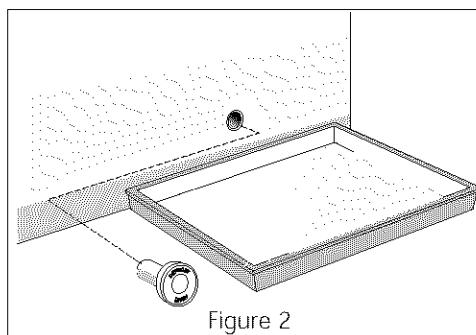
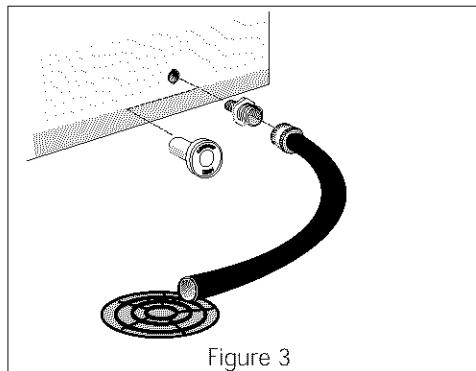
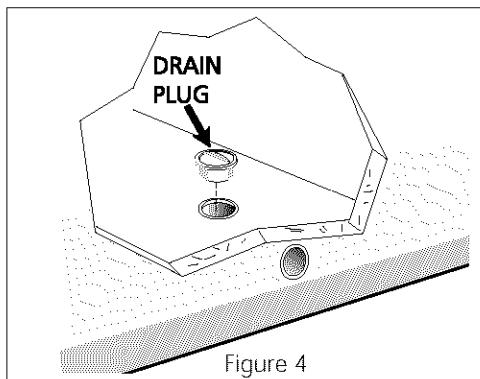

Figure 2
Figure 3
Figure 4
- **On chest models** with a defrost drain, place a shallow pan beneath the drain outlet (Figure 2). A one half inch garden hose adapter can be used to drain the freezer directly into a floor drain (Figure 3). If your model is not equipped with an adapter, one can be purchased at most hardware stores. Pull out the drain plug inside the freezer, and pull off the outside defrost drain plug (Figure 4 on following page). Defrost water will drain out. Check pan occasionally so water does not overflow. Replace the drain plugs when defrosting is completed.